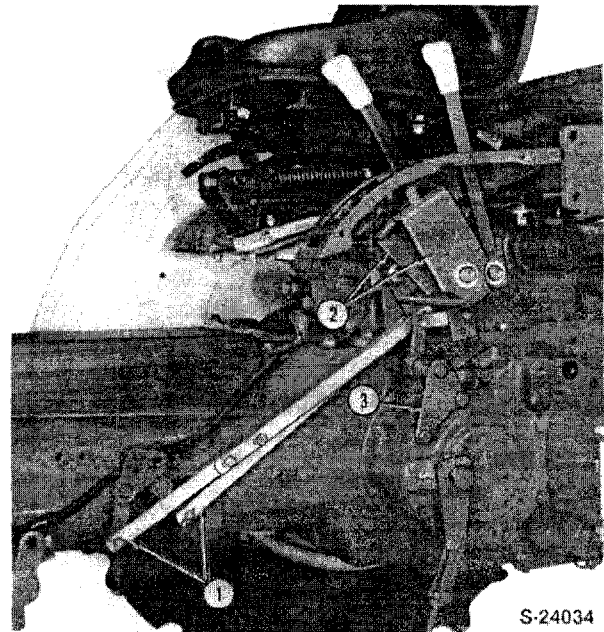

Figure 31
19. On the model 1720, disconnect the range gear shift links (1), Figure 31.
17. Remove the lever guide and mounting bracket from the hydraulic lift cover, Figures 31 and 36.